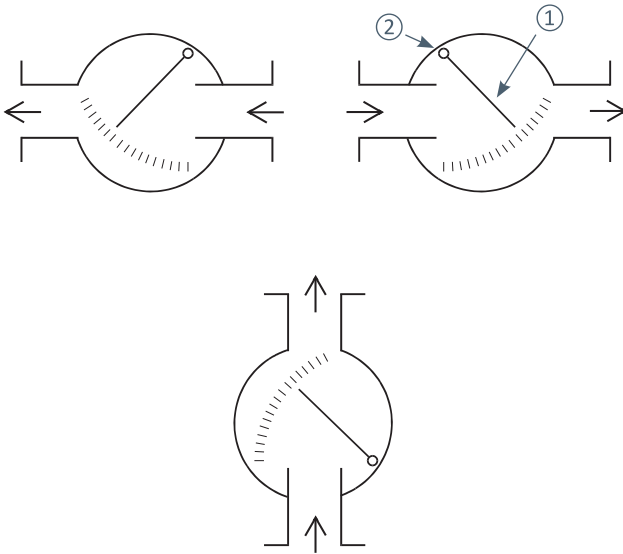

Fig. 5: Flow direction
The flap-type flow indicators operate using the flap principle. The operating principle of the two flap-type flow indicators is shown schematically in Fig. 5. The measurement flap (1) in the fitting rotates around an axis (2). In the idle condition (i.e. no flow), the flap seals the pipeline due to its own weight. As soon as liquid flows, the flap raises according to the flow rate. The respective flow rate can be read directly from the position of the flap in clear liquids (INTRA).